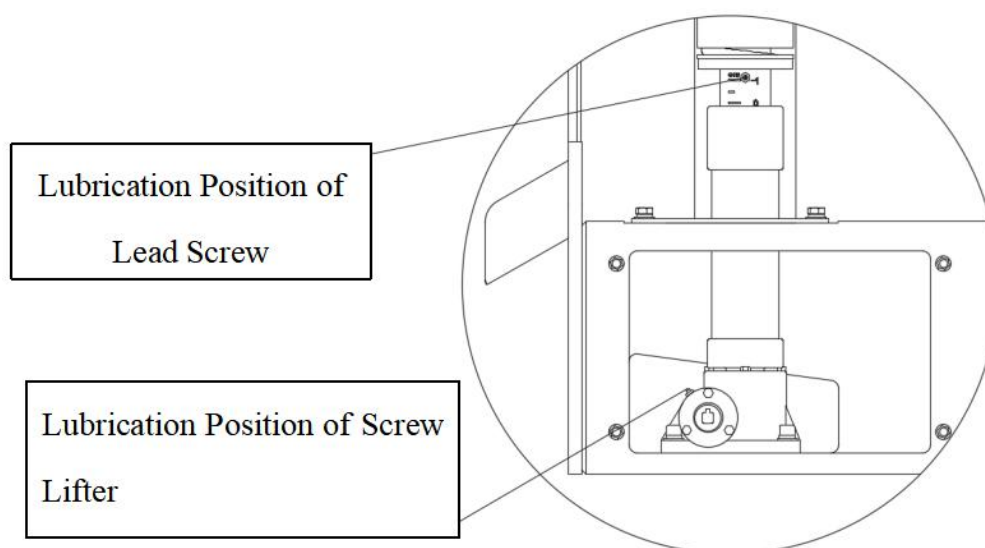

Figure 1. Screw lifter and lead screw lubrication position
6. Check once a month whether the heights of the damping springs at the left and right ends are consistent, and check the wear of the bottom frame rubber strip; After every 1000 hours of operation, add the specified lubricating grease for the vibration motor. The brand of the lubricating grease is SKF: LG HP2/18, and lubricate the screw lifter and lead screw once a year. The brand of the lubricating grease is Mobil UX EP2 (Figure 1).